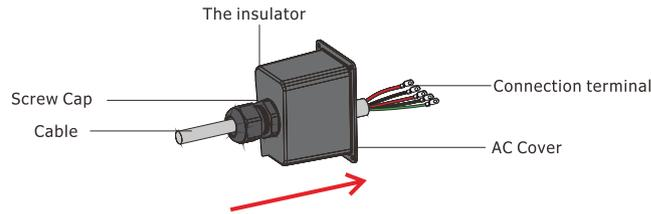

Figure 4.3-4 The AC cable passes through the terminal cover
**Step 2.** Using the terminals in the accessory box, pass the AC cable through the terminal cover. See Figure 4.3-4.